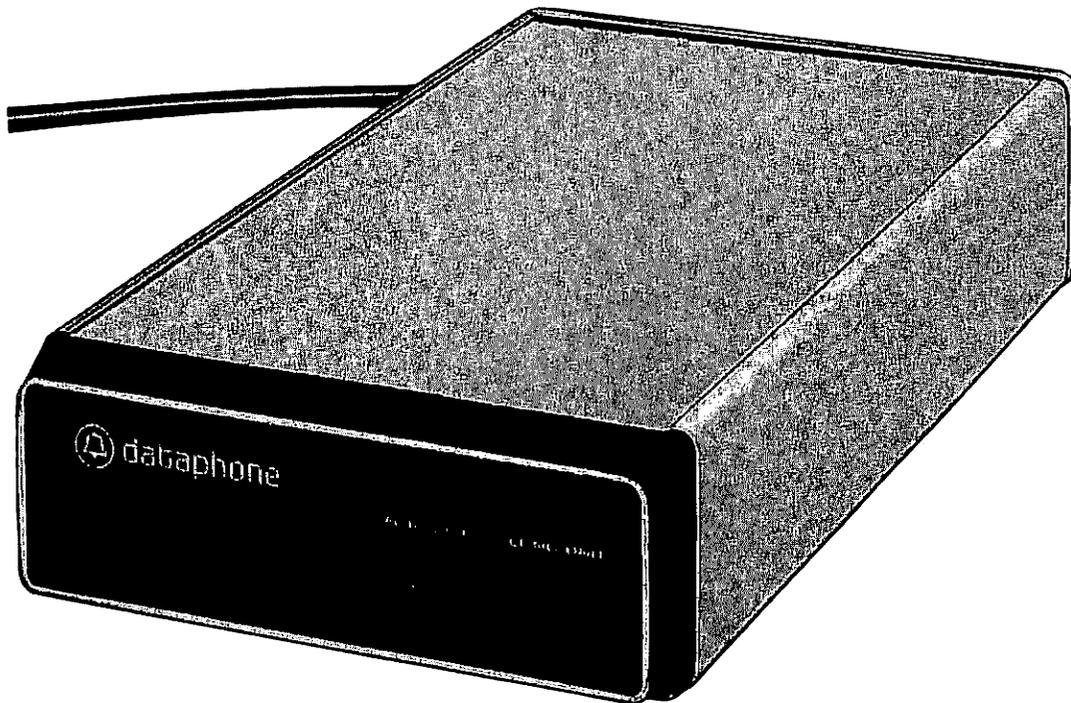

Fig. 1—52A1 Data Mounting
1.03 The 52A1 data mounting (Fig. 1) includes the following: